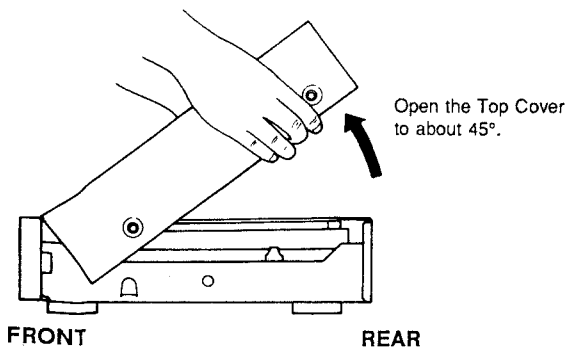

Fig. 3
- c. Keep lifting up the Top Cover till it opens about 45° as shown in Fig. 3.